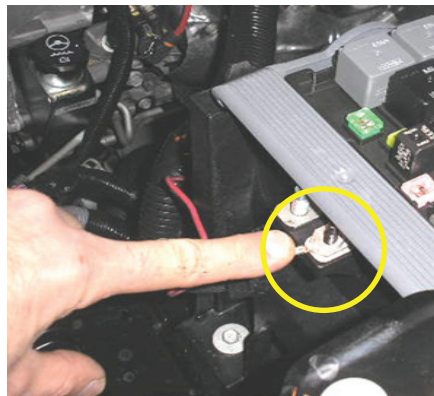

Figure 2
2. Pull the trairling harness wire down (Fig. 2)
3. Place the terminal on the smaller of the two studs (Fig. 2) in front of the under-hood electrical center and secure with an M6 fastener